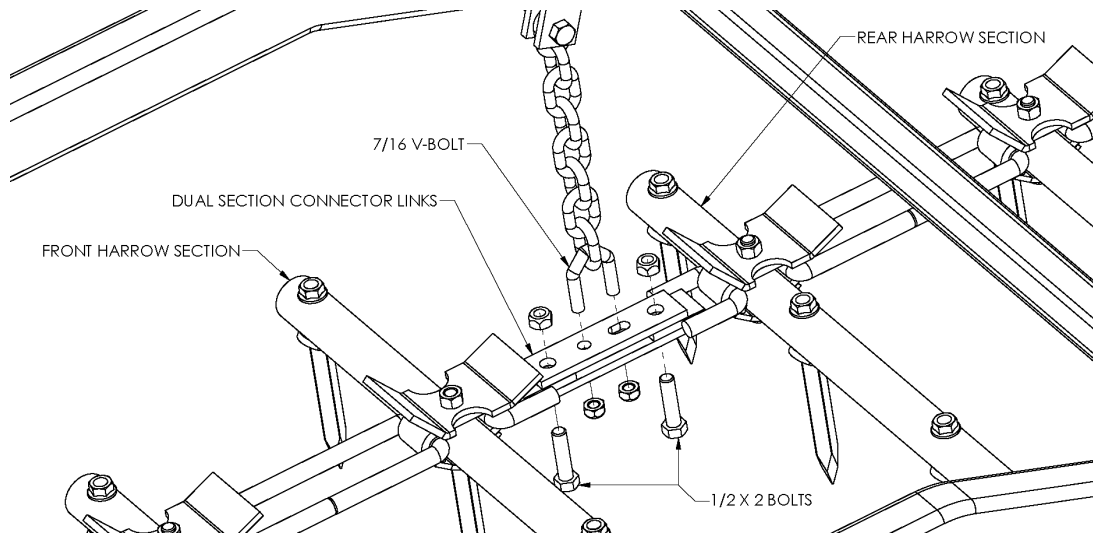

Figure 33
2. Bolt the front and rear harrow sections together using two 5/16" x 1 1/2" x 6" dual section connector links at each pull tab. Refer to Figure 33. Use two 1/2" x 2" bolts and locking hex nuts. Do *not* tighten yet.